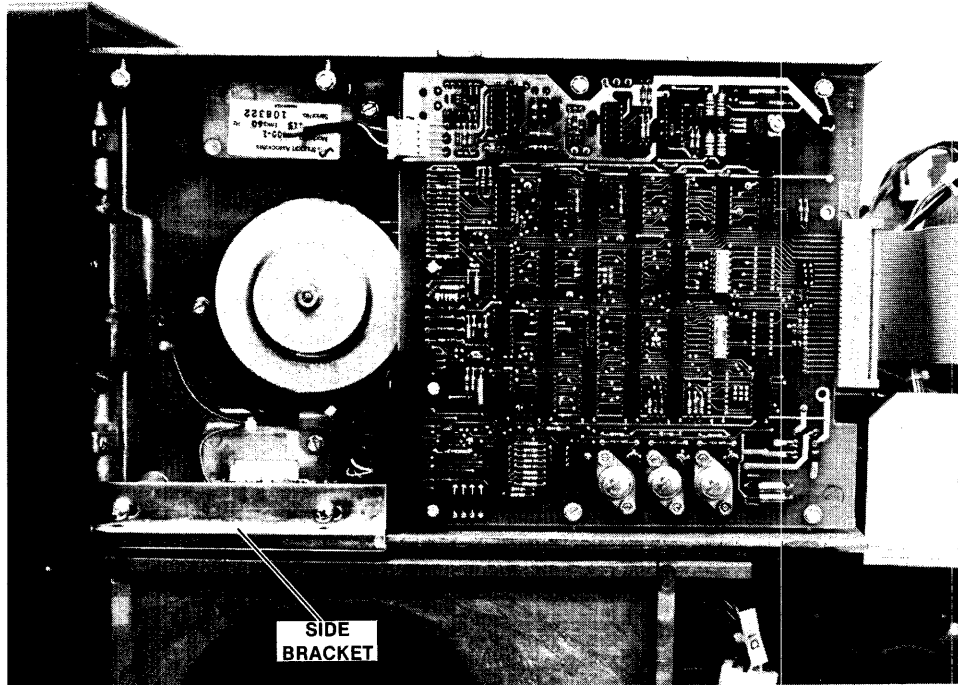

Fig. 4-15 Installing the Side Bracket
10. Install the side bracket and tighten the screws as shown in Figure 4-15.